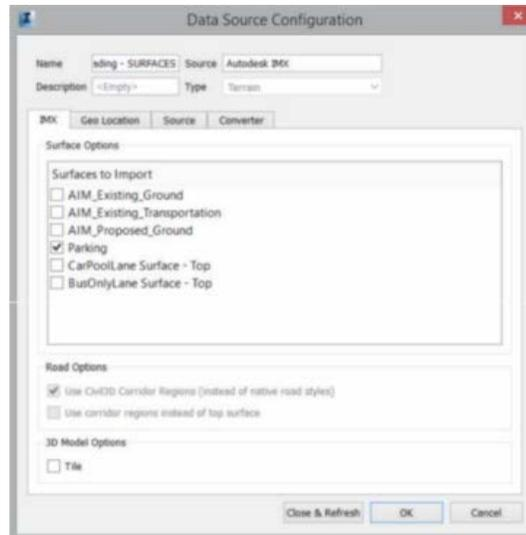

Figure 32
- **Surfaces:** Both existing ground and finish ground surfaces can be imported, becoming terrain surfaces. If a grid surface is imported, it is converted into a TIN surface. Only one surface can be displayed in the model at a time, so you must select which surface to import in the IMX tab, in the Data Source Configuration dialog box, as shown in Figure 32.